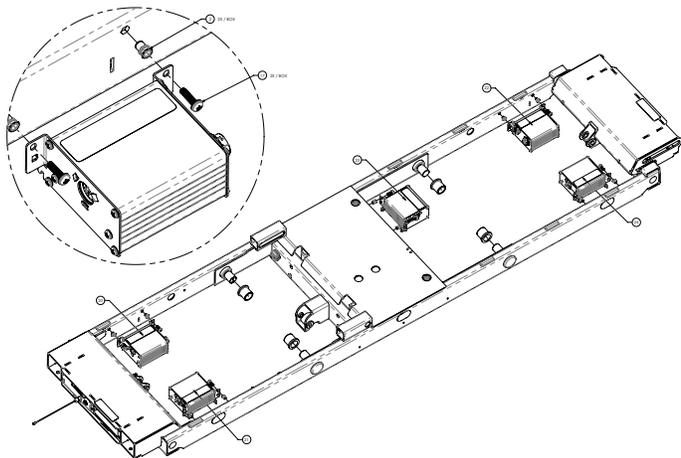

Figure 11 – ACB replacement
7. Using a #2 Phillips screwdriver, remove and save the two screws (17) that secure the ACB assembly to the litter frame (Figure 11).
8. Lift upward on the ACB assembly (20, 21) and unkey from the litter frame (Figure 11).